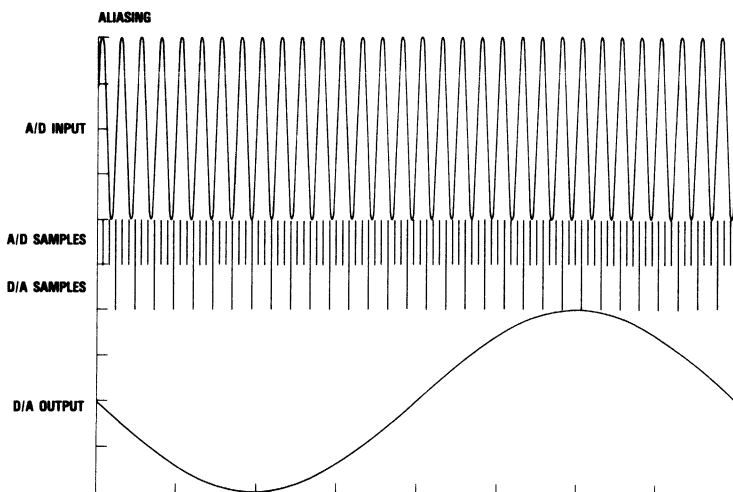

Figure 1. Beat Frequency Test
The test used to determine the bandwidth of an A/D converter is the "Beat Frequency Test." The principle behind this test is to use "aliasing" to convert a high-frequency input signal to a low-frequency output signal which is easier to analyze. This is done by providing the A/D converter with a high-frequency sine wave input, and then sampling the input at a rate offset by a small delta in frequency from an integral (N) multiple of the input frequency. A D/A converter is given every Nth A/D output; this produces an output signal of the A/D which is an aliased version of the input. This is shown in figure 1, where the upper high frequency input is sampled at a rate slightly faster than three times its frequency (A/D samples are taken at the locations of the upper bars), every third A/D sample (lower bars) is presented to a D/A converter, and the resultant output signal is the bottom low frequency signal. In a typical set-up, the analog reconstruction (D/A output) is examined on an oscilloscope